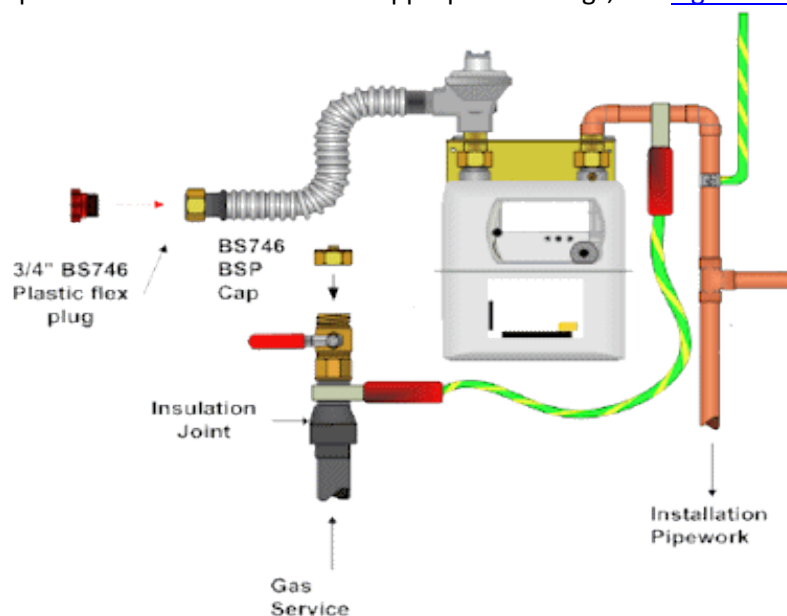

Figure O4 – Capping the Meter
9. Disconnect the flex union from ECV and bend the flexible connection away from the ECV (See Figure O4).
10. Cap the ECV and flex union with appropriate fittings, See Figure O4.